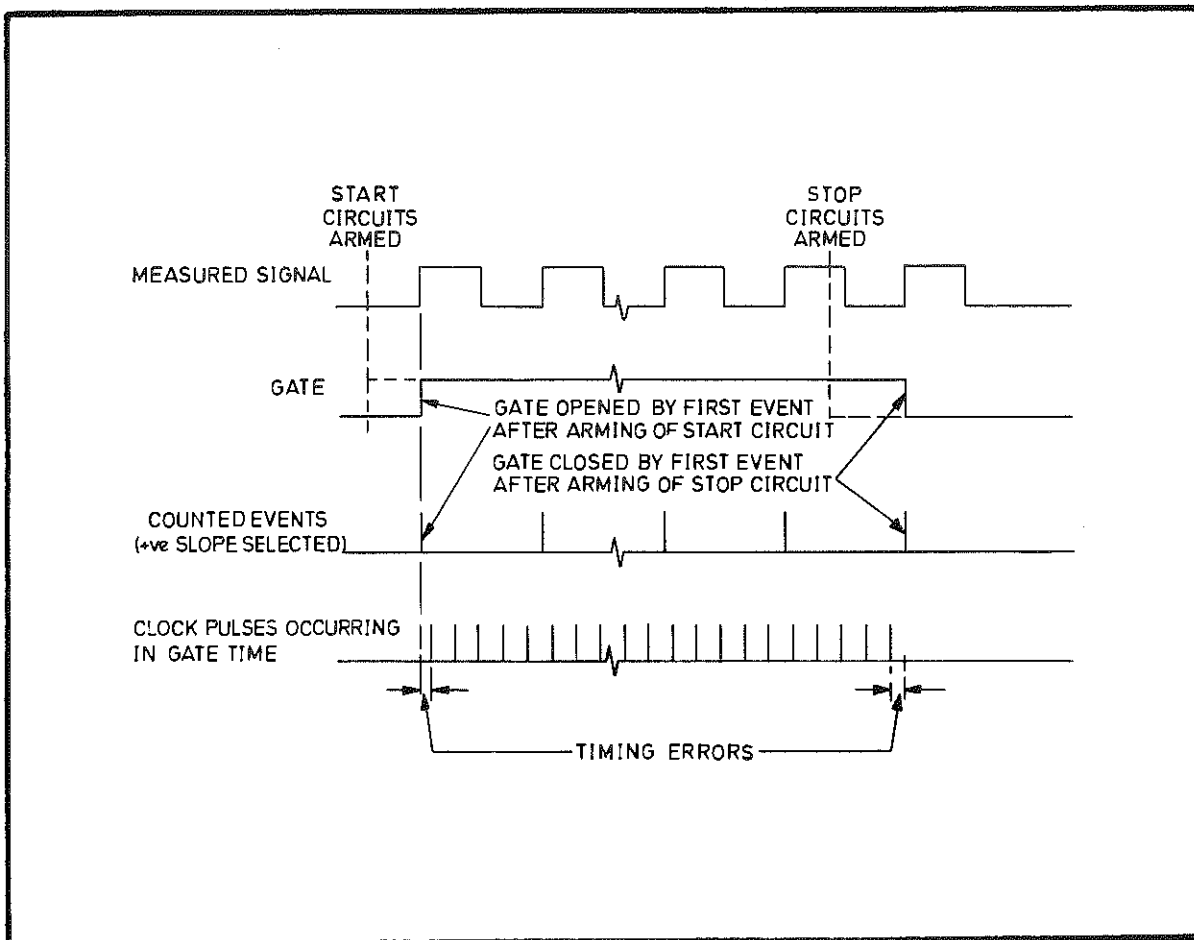

Fig 6.6 Basic Recipromatic Counting Technique
- 52 The circuits within MCC1 and MCC2 are configured by the microprocessor according to the measurement function in use. The recipromatic counting technique is used. With this technique the measured signal, not the counter clock pulses, controls the start and stop of the measurement period (gate time) as shown in Fig 6.6.